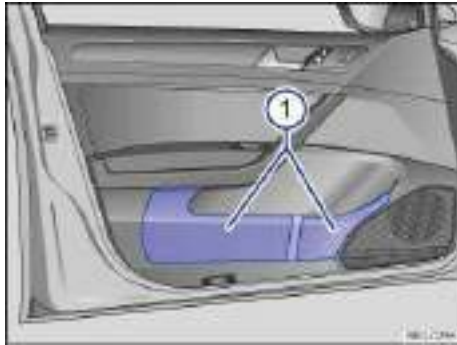

Fig. 111 In the driver door: Storage compartment.
There is a storage compartment in each vehicle door ⇒ fig. 111 (1).